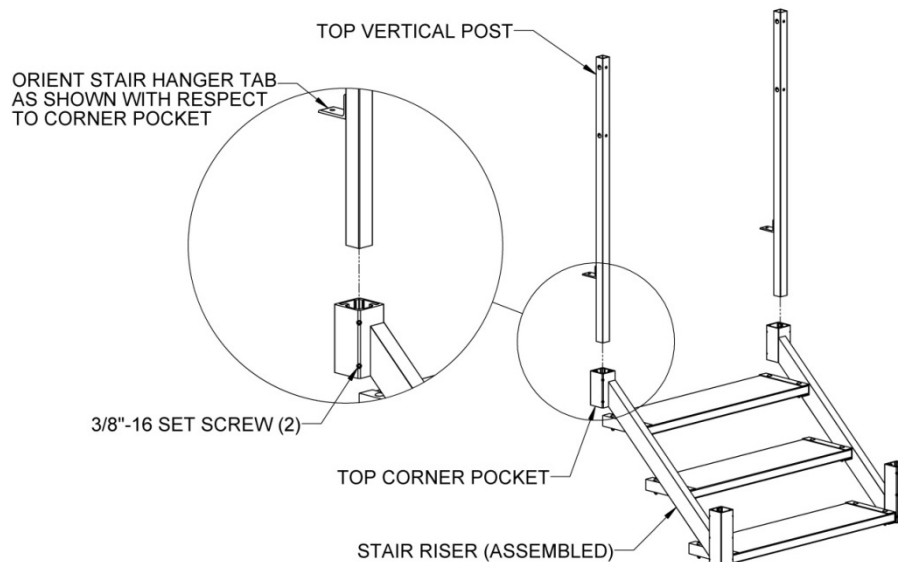

FIG. 4
- 3.1. Insert top vertical posts into each top corner pocket with the stair hanger tab oriented away from the riser. Tighten one 3/8"-16 set screw in each top corner pocket (FIG.4).